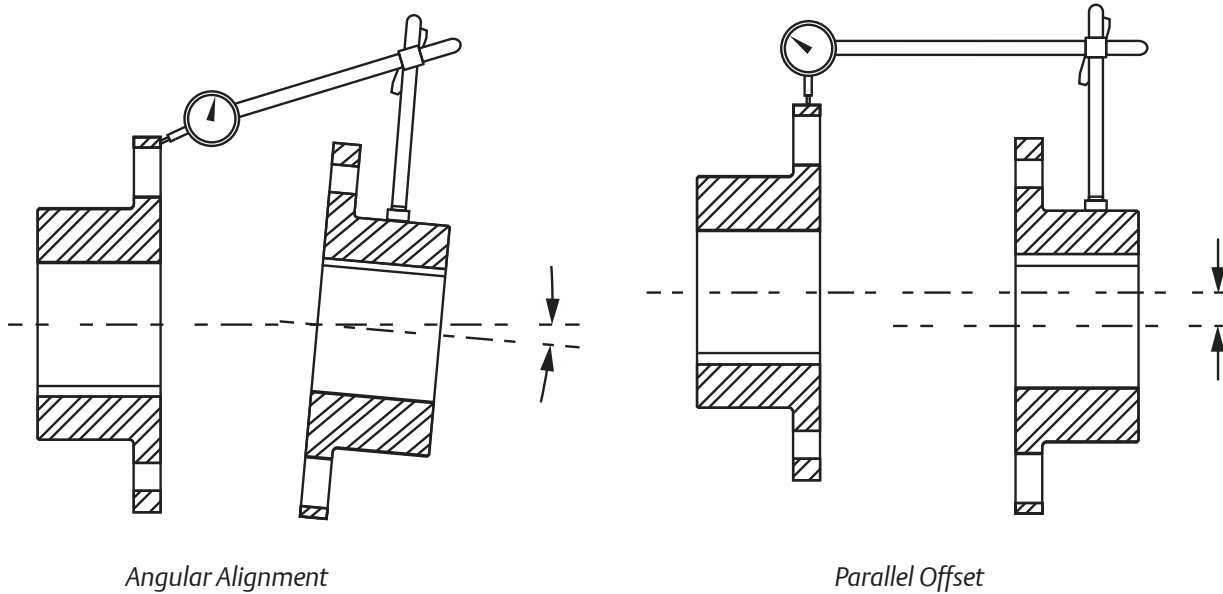

Figure 5-9. Angular Alignment and Parallel Offset
21. *Angular Alignment.* Rigidly mount a dial indicator on one hub or shaft, reading the face of the other hub flange. Rotate both shafts together, making sure the shaft axial spacing remains constant. Adjust the motor by shimming and/or moving so that the indicator reading is within 0.002" per inch of coupling flange, see Figure 5-9.
22. *Parallel Offset.* Rigidly mount a dial indicator on one hub or shaft, reading the other hub flange outside diameter. Indicator set-up sag must be compensated for. Rotate both shafts together. Adjust the equipment by shimming and/or moving so that the indicator reading is within 0.002" per inch of the axial length between flex disc packs, see Figure 5-9.